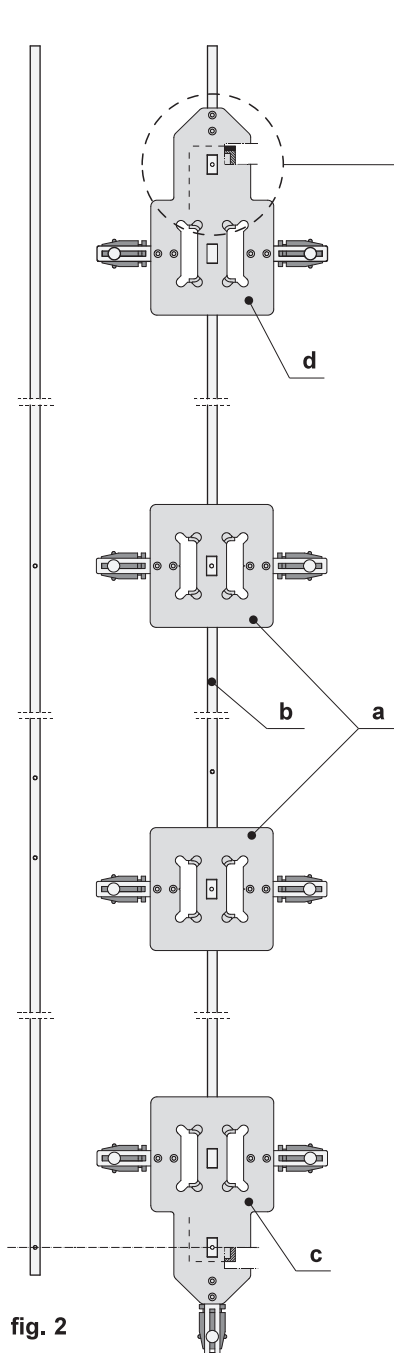

fig. 2
- 2) For sashes with 500 mm max. handle height, insert a jig art. A20030.01.27 (a) on rod art. A20030.01.28 (b) and place it according to the GR size of the vertical connecting elements on the handle side (fig. 2). If you use a GR size without locking cams the millings can be done without the help of a jig rod.